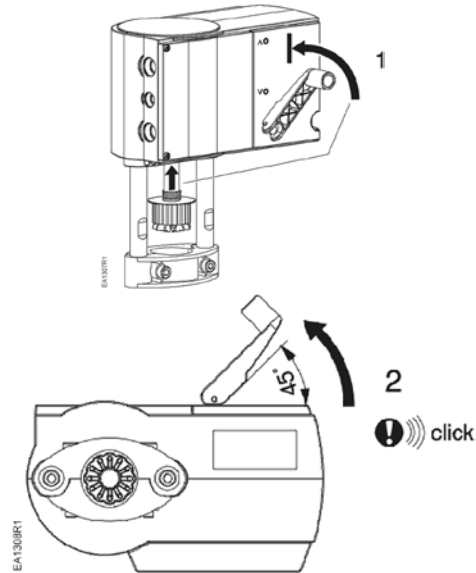

Figure 5.
3. To engage the manual override crank, pull back the crank arm from its storage location until it springs into position. See Figure 5, Step 1.
- c. To lock the stem in place, position the handle at a 45° angle until you hear it snap into place. See Figure 5, Step 2.